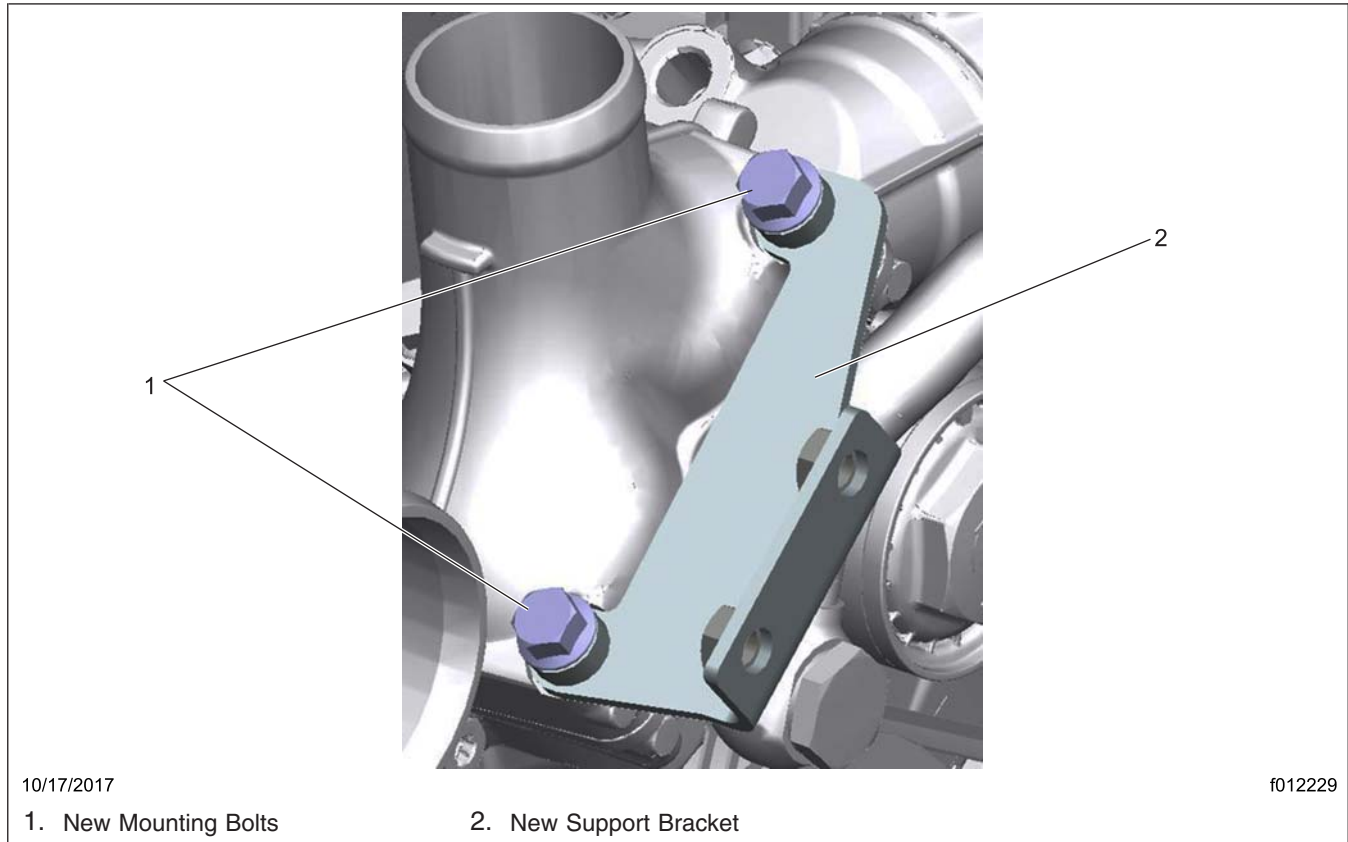

Fig. 3, A/C Refrigerant Line Lower Support Bracket Installation
15. Install the new A/C refrigerant line lower support bracket and two new supplied mounting bolts. Hand tighten the bolts. See Fig. 3.